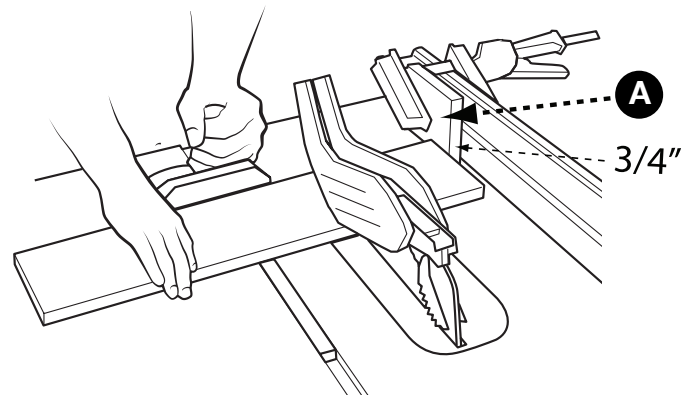

FIGURE 29
When crosscutting a number of pieces to the same length, you can clamp a block of wood (A) (Fig. 29) to the fence and use it as a cut-off gauge. The block (A) must be at least $\frac{3}{4}$ -inch (19 mm) thick to prevent the cut off piece from binding between the blade and the fence. Once the cut-off length is determined, lock the fence and use the miter gauge to feed the workpiece into the blade.